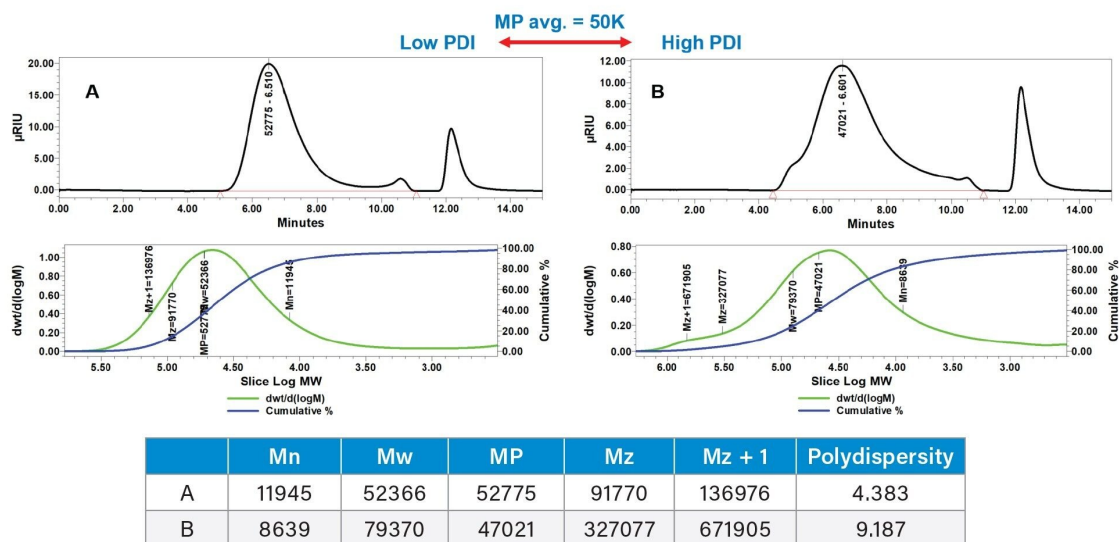

Figure 6. The results of the MW analysis of polyamide samples A and B with RI detection.
There are two PDMS results displayed in Figure 6 that have similar MP values: A and B are in the 50K peak average molecular weight (MP) range. The MW pair has a low (4.383) and high (9.187) polydispersity index (PDI) example. The low PDI example has a narrower peak. The higher PDI chromatogram has a broader peak and a shoulder that exceeds the exclusion limit of column bank separation capability. The differences in PDI are important information while predicting the final product properties of flow, flexibility, and durability.8 The MP and PDI are just two of the many standard calculations reported in the Empower 3 GPC option.